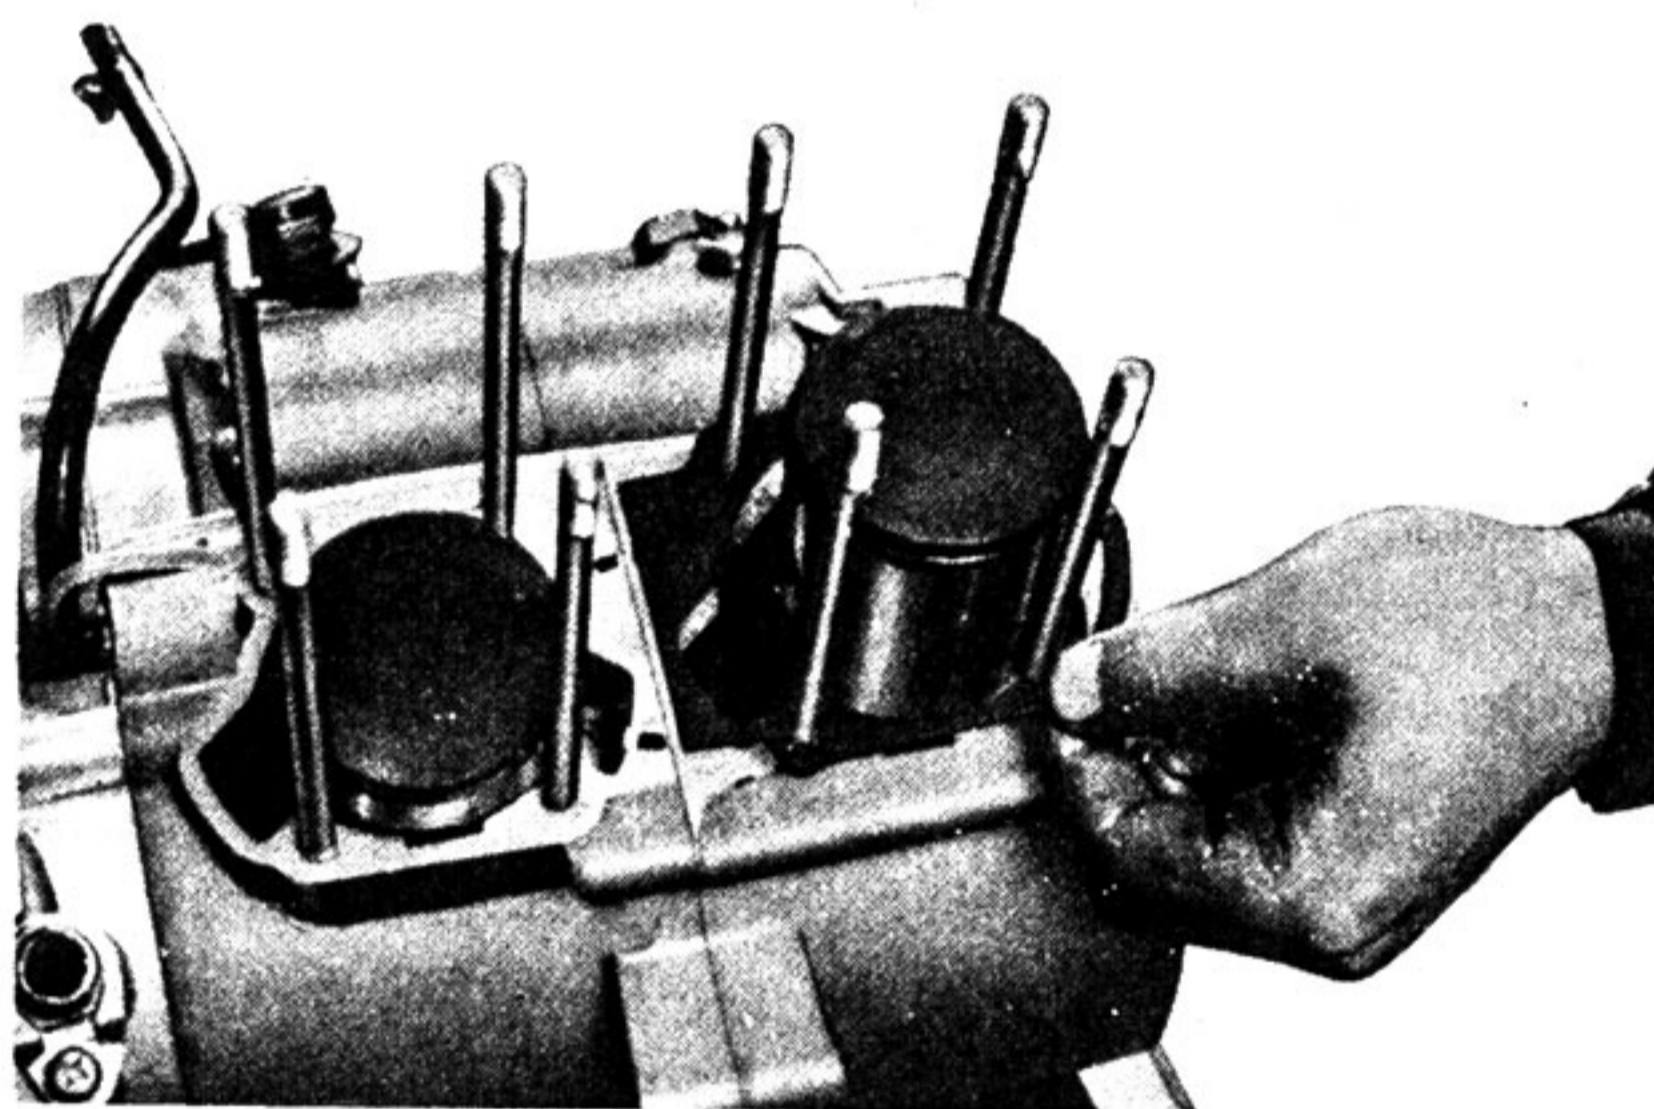

Fig. 4-3-8
a. Always use new cylinder gaskets when overhauling the engine. (Fig. 4-3-8)